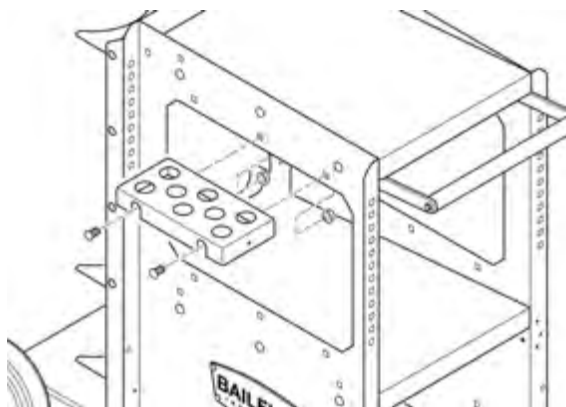

Figure 4-9
10. Using two M8 x 20 Round-Head Square-Neck Carriage Bolts (item #2) with M8 Flanged Nylock Hex Nuts (item #4), attach top Tig Filler Rack (item #11) to cart assembly Side Panel as shown in Figure 4-9. **Fully-tighten these nuts.**